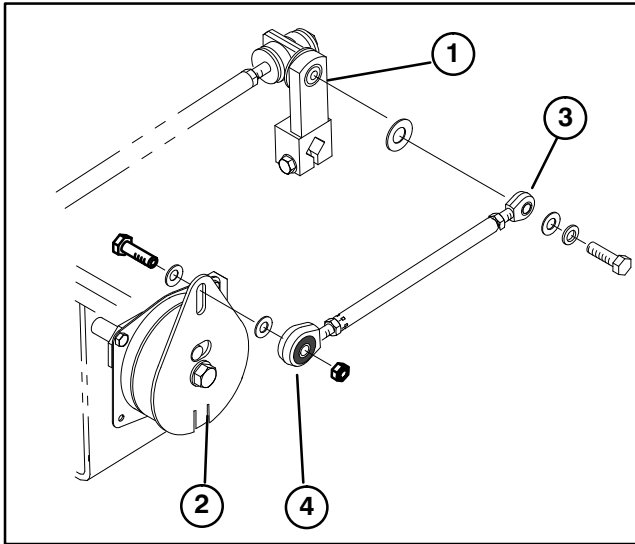

Figure 8
19. Secure ball joint end to traction rod pivot post with a flat washer (previously removed), new flat washer lockwasher and capscrew (included in kit) (Fig. 8).
20. Secure rod end to clutch plate with a 3/8–16 x 1–3/8" lg. capscrew, (2) .406 x .81 x .08 flat washers and locknut. Position components as shown in figure 8.
21. Adjust ball joint ends on speed adjust rod so they align with mounting hole on traction rod pivot post and slot in top of clutch plate. Coil mount shaft must be located in front of clutch plate slot when adjusted properly. Tighten jam nuts securing adjustment (Fig. 8).